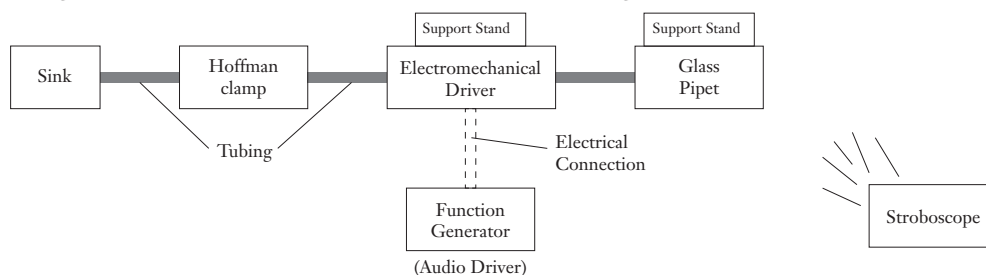

Figure 2.
- Connection diagram is provided to help visualize the set up. See Figure 2